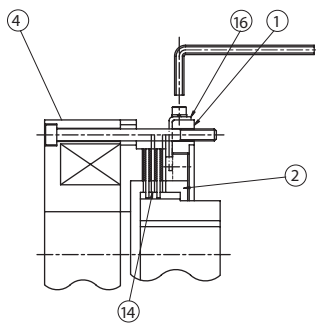

Figure 8-35
- (1) Manually release the brake following the procedure on P74.
- (2) Loosen the stopper [16] on the periphery of the center ring [1], and remove. This will free the gap adjusting screws [2]. (See Figure 8-35)